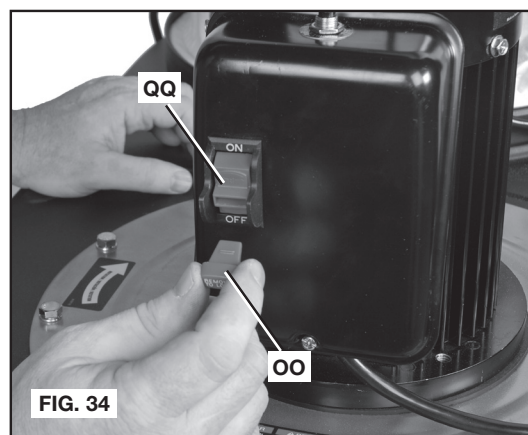

FIG. 34
Remove sticker (PP) covering the switch before inserting toggle (OO) Fig. 34 into switch (QQ).